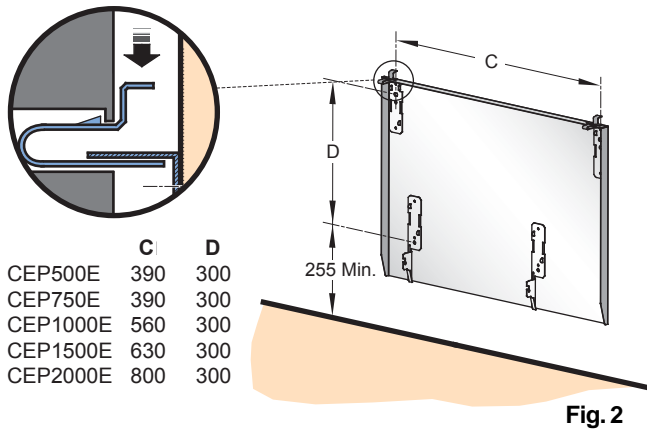

Fig. 2
1. Remove wall mounting bracket from the back of the heater by depressing the spring latch at the top of each bracket - see Fig. 2.
To release heater from the wall bracket for cleaning or redecoration, depress latch on both brackets (see **Fig. 2**) and hinge forward.